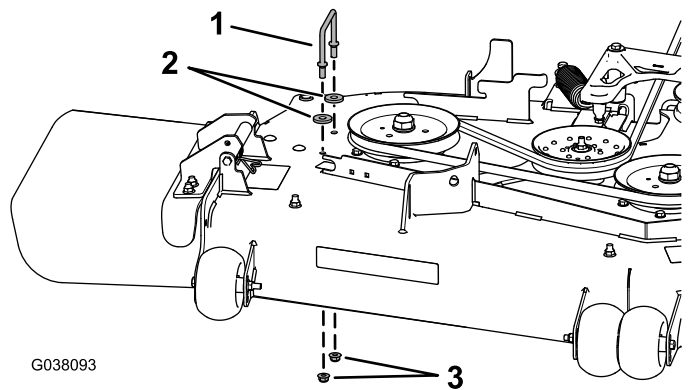

Figure 24
3. Remove the right belt-cover bracket, **2 washers (60-inch mower deck only)**, and 2 flange nuts from the mower deck (Figure 24).